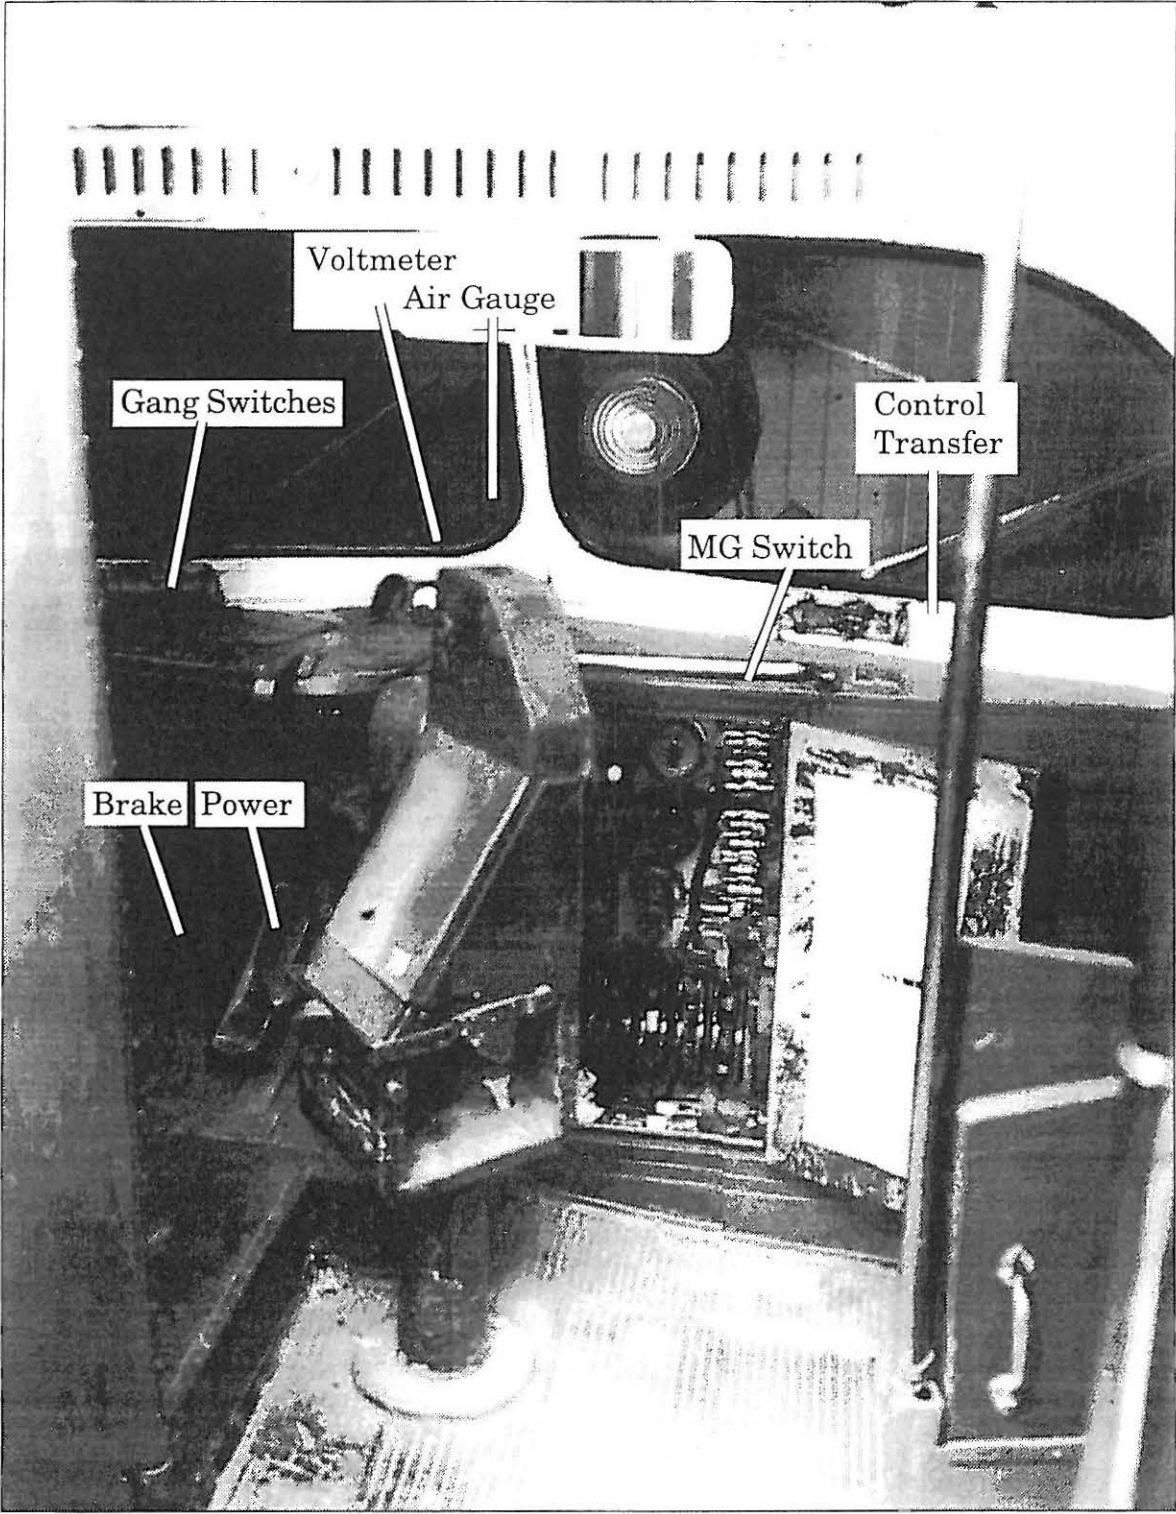

Figure 19. Photograph of PSTCo. 14/24, A-End Controls.
2. Place the reverser handle, or **hook**, in the floor receptacle on your right beside the seat (figures 19 & 20). Insert it into the reverser with the "wing" facing forward. Push the hook forward as far as it will go. When this is done the car will be ready to run in the forward direction. If a continuous hissing sound of escaping air is heard, the car was not "service latched" properly by the previous operator. See Step 3. **Open doors with the appropriate switches, as required**. If the hook appears to be jammed and doesn't want to move forward, push the brake pedal lightly while pushing the hook forward. This will help in releasing the interlocks.